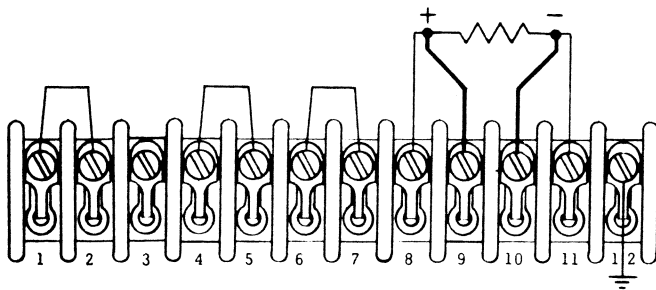

Figure 3-2. Remote Sensing Hookup
- c. Remove rear cover, and disconnect links between terminals 8 and 9, and 10 and 11 (Figure 3-2).
**3-12. REMOTE-SENSING RECALIBRATION.** When a DCRA unit is operated in the remote-sensing mode, the current-mode reference will shift slightly, altering current-mode-circuit calibration by about 5%  $I_o$  for each volt of negative load-lead drop. As an example of the effect, assume that a DCR 40-20A is supplying 10 A and the negative load-lead drop is one volt. The resulting change in voltage-current crossover (limiting) point will be 0.5 A. In other words, the true crossover point will be 0.5 A less than that set on the CUR. ADJUST AMPS. control. If this effect is undesirable, compensate for by (1) using the CUR. ADJUST AMPS. control to raise the crossover point to a new value given by: